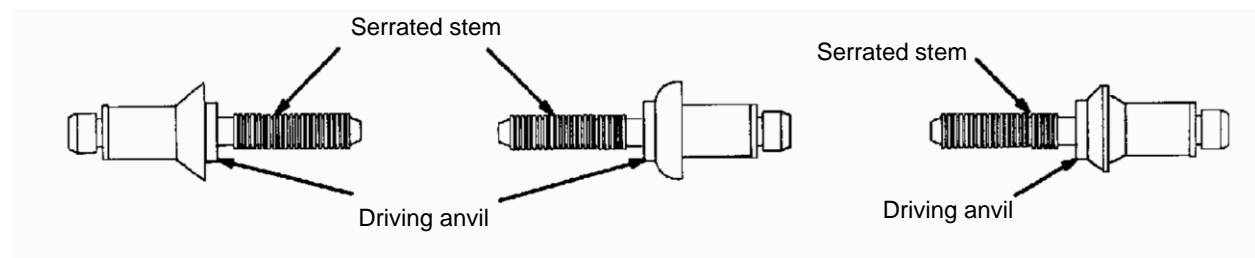

Figure 5. Blind Rivets
5.3.1 Check selected fastener holes for conformance to the requirements of Table 5 using the applicable go/no-go gauge as follows (see Figure 5):